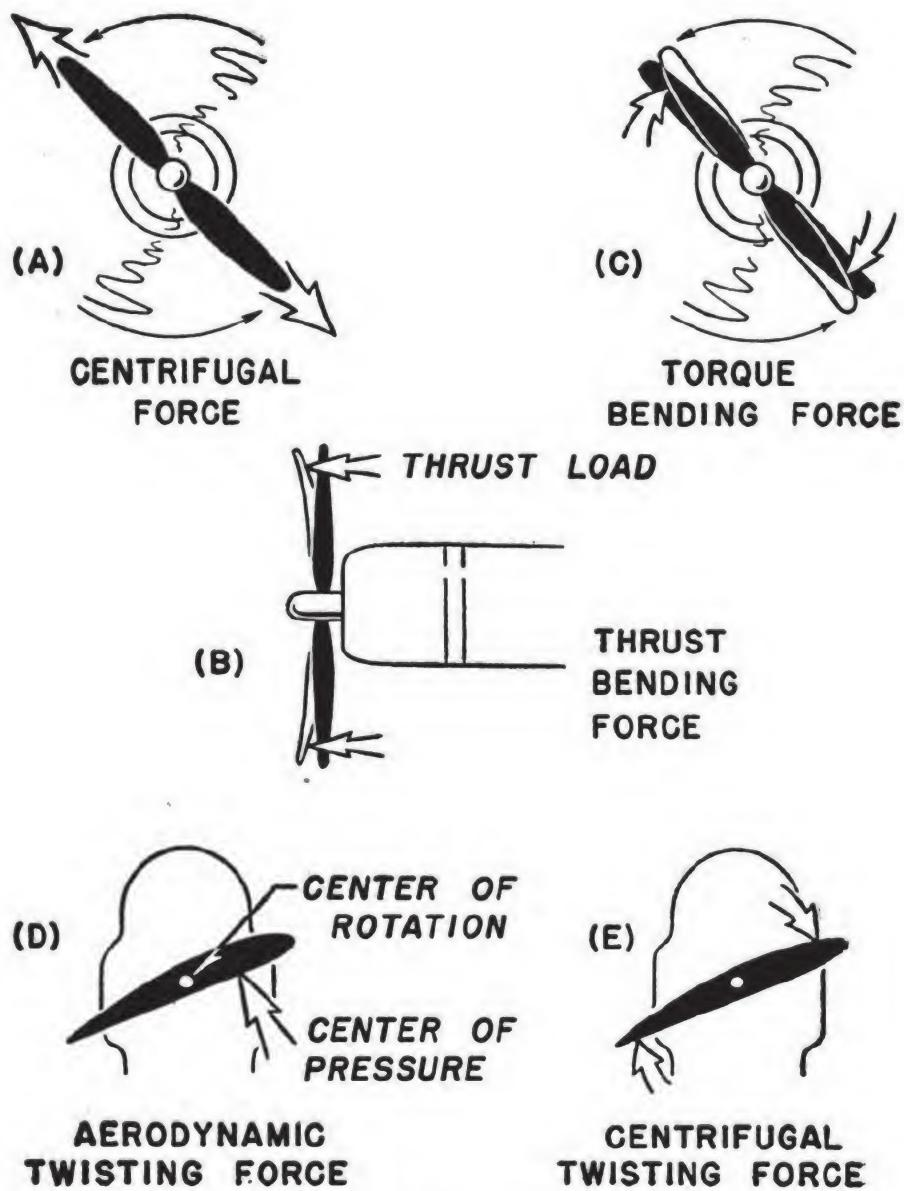

Figure 4.—Forces which act on propeller blades.
One of the main requirements of any propeller is an ability to withstand severe stresses. These stresses are greatest near the hub. The major ones and what they do to the propeller are pointed out in figure 4. Chief among them is CENTRIFUGAL FORCE, (A) which tries to make a spinning blade pull away from the hub. To prevent the blades from breaking into fragments or from flying off into space, the central portions are made thicker in cross-section.
Another force tries to rotate the blades in the hub so that the blade angle will be increased. It's called AERODYNAMIC TWISTING FORCE. Notice (*D*) in figure 4. The point at which this force is exerted most strongly on the chord of the airfoil is known as the CENTER OF PRESSURE. Since under normal conditions, this center of pressure is nearer the leading edge of the propeller, the force tends to rotate the blade to a higher pitch. When the airplane goes into a dive, the center of pressure moves backwards and may even fall behind the center of rotation.